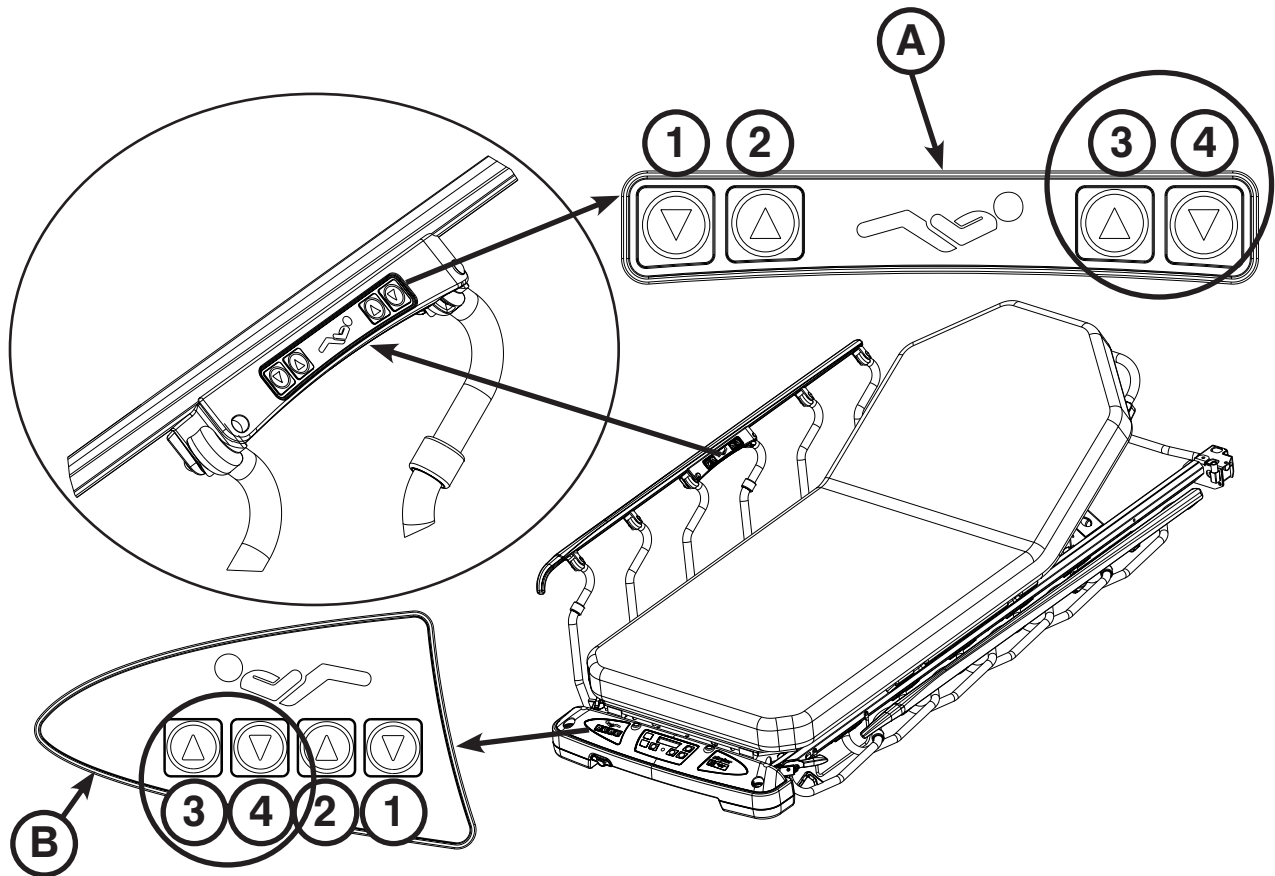

Figure 25: Fowler - Electric Option
To raise the fowler, press the UP (3) button on the patient siderail controls (A) or foot end nursing controls (B) until the fowler has reached the desired angle (between 0 and 70 degrees) as shown in Figure 25.
To lower the fowler, press the DOWN (4) button until the fowler has reached the desired angle (between 70 and 0 degrees) as shown in Figure 25.